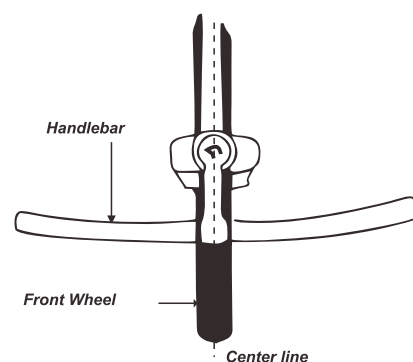

fig.8 Handlebar and Handlebar Stem Assembly
Since your cycle may be fitted with an adjustable, a standard stem or an A-head stem(refer to fig.8,), you must always check that all the bolts are tight before cycling. Based on the situation
- 2)Align the handlebar stem with the front wheel(see fig.8). Tighten securely the expender bolt with an adjustable wrench.
6) Be sure that your handlebar and stem assemblies are properly tight before riding. The handlebar should not rotate in the stem. When you straddle and grip the front wheel between your knees, the handlebar should not be able to turn when you apply pressure horizontally. Refer to (fig. 8)